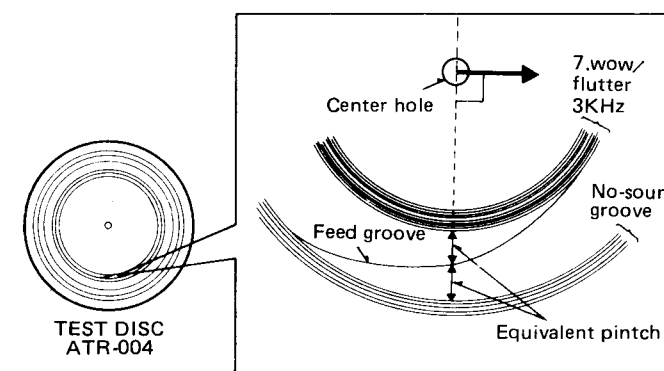

Fig. 4
3) Put a mark on the test disc (ATR-004) as follows: Draw a line between the center hole and the halfway point of the 7th feed-groove, which is located between the 6th track "no sound groove" and the 7th track "wow and flutter check-3kHz", with eyes. Then put an arrow mark on the label at right angle against the above line as shown in Fig. 4.